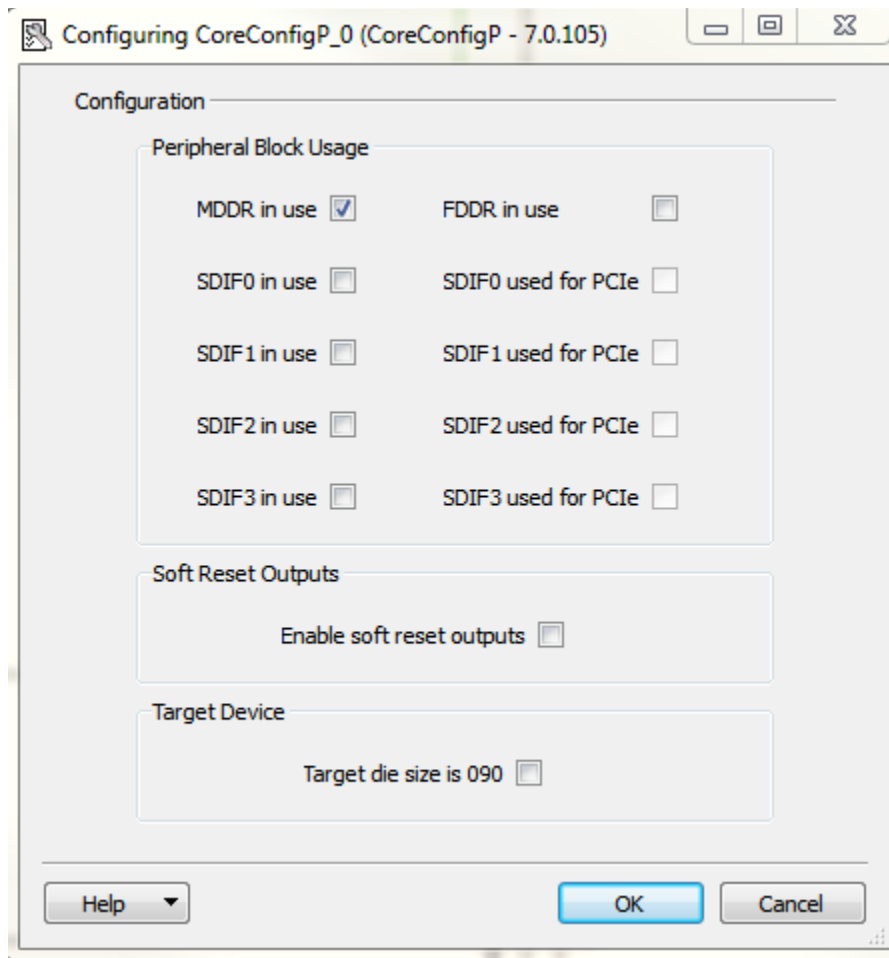

Figure 37 • CoreConfigP Dialog Box
3. Configure the core to specify which peripherals need to be initialized (Figure 37)